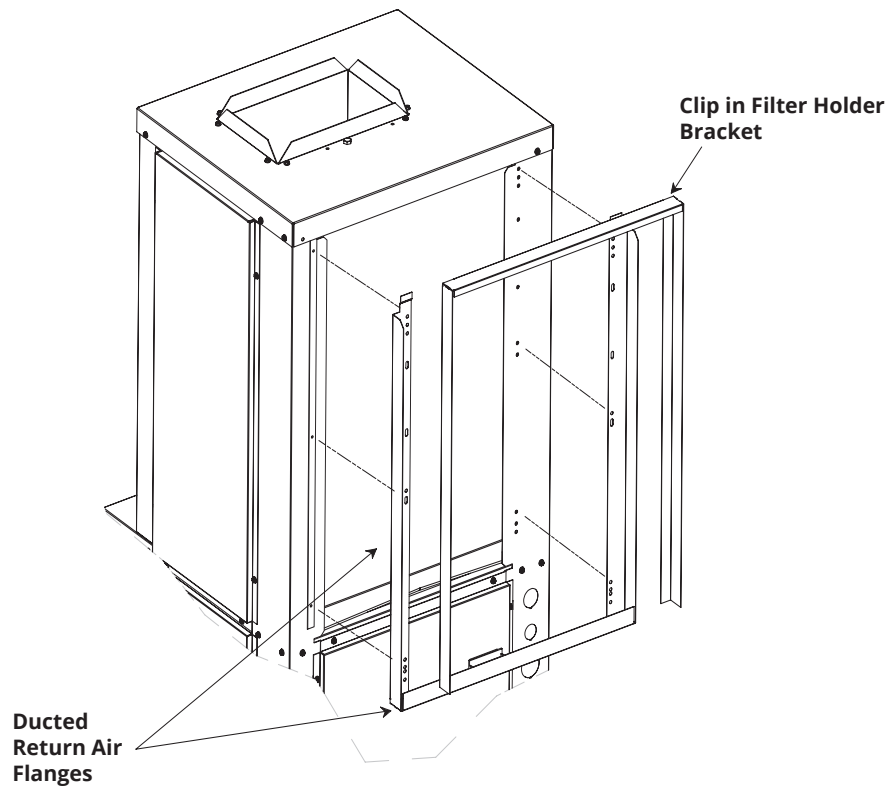

FIGURE 7
11. **Filter Brackets** – (See Figure 7) Filter Brackets and a throw away filter are shipped with each unit and are field installed over the unit's evaporator coil.